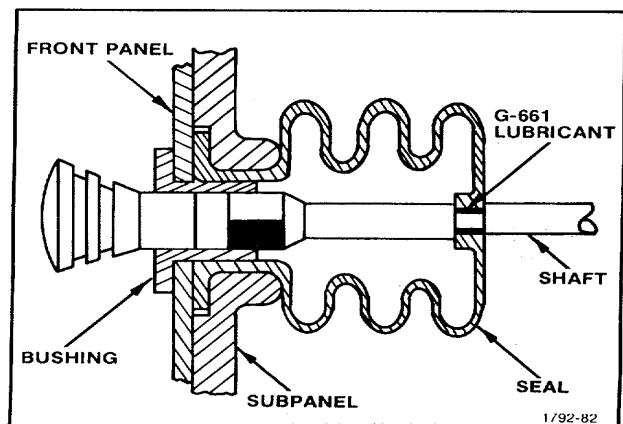

Figure 5-29. Installation of the POWER SWITCH.
**26. Install Power Switch Shaft Into Front Panel (see Fig. 5-29)**
3. Install as shown in Fig. 5-29.